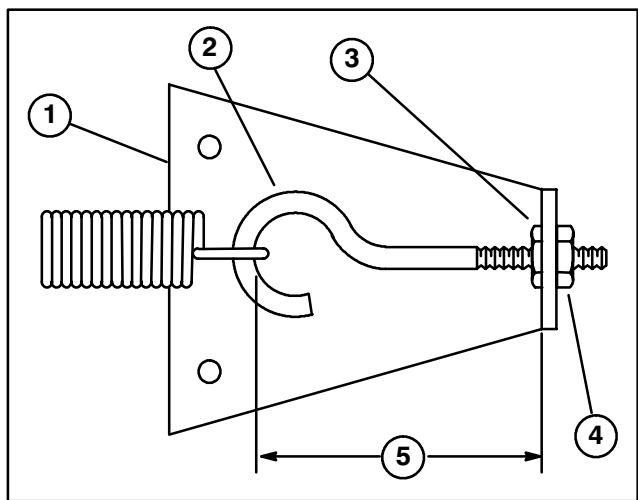

Figure 62
ADJUSTING TRACTION LINKAGE (Fig. 62)
4. Rotate, clockwise, until distance between inside of eye bolt loop and inside of spring anchor plate is shortened 1/8", as shown in figure 62. Tighten hex nut.